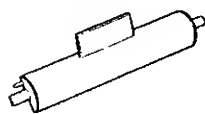

Fig. 5
* The Ink Roll is a consumable product and a genuine part supplied by TEC. Ask your TEC representative for an additional order. (Fig.5)